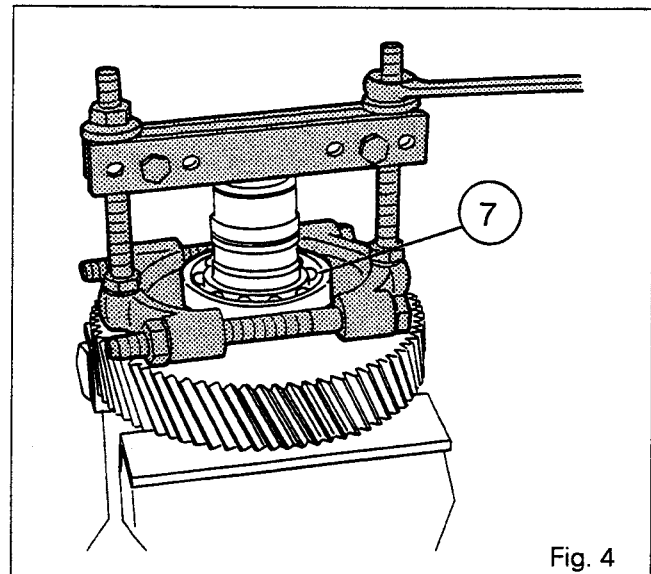
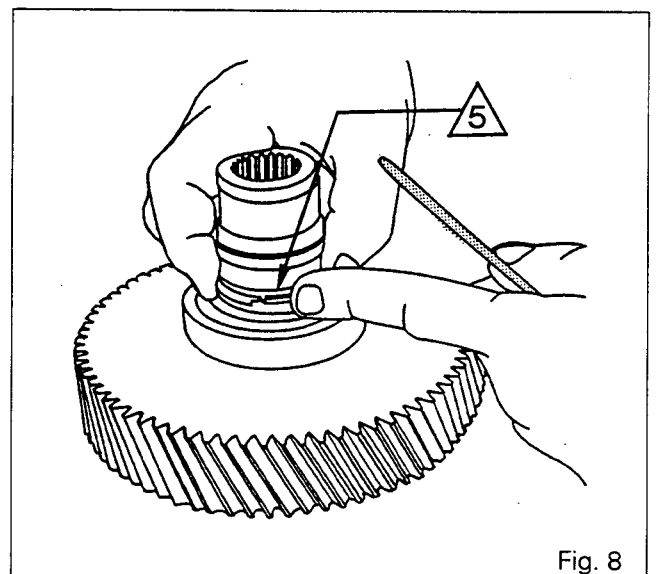
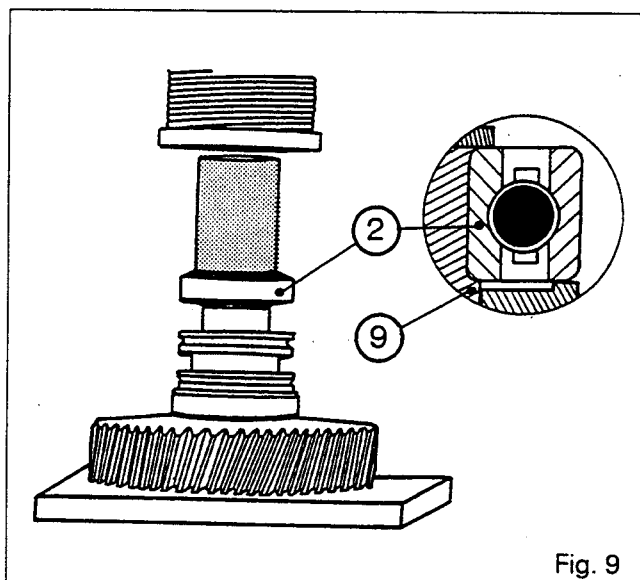

Fig. 4
Fig. 8
Fig. 9
29. Remove the seal rings (5) (Fig. 8). Extract the ball bearing (7) (Fig. 4).
38. Place the seal rings (5) in their grooves and join up the ends (Fig. 8). Ensure that they turn freely.
40. Slide the sleeve (4) on to the seal rings, taking care not to damage them.
- Note:** Position the larger diameter end of the sleeve towards the ball bearing (7).
41. Using a suitable device and a press, push the ball bearing (2) in until it meets the shoulder of the support housing (9) (Fig. 9).
42. Fit the circlip (1).
43. Replace and lubricate the O-rings (11), (25) and (26).